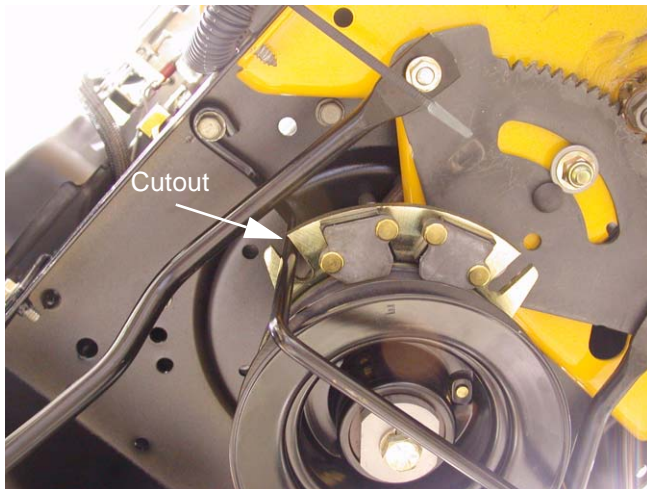

Figure 17.16
- When installing the belt guide, make sure that it passes through the cutout in the PTO clutch. this acts as a anti-rotation bracket. See Figure 17.16.